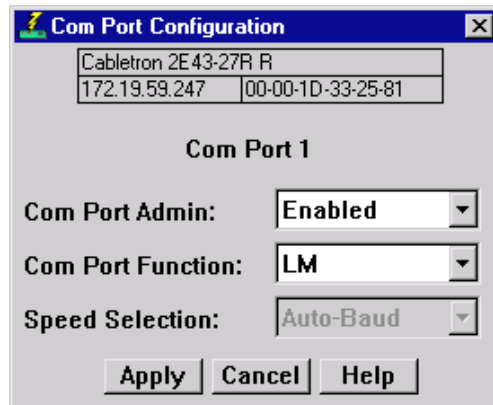

Figure 2-15. The Com Port Configuration Window
You can use the COM Port Configuration window (Figure 2-15) to specify the functions that will be performed by the RS232 COM port on the SmartSwitch 2000 front panel.
2. Click on **Com Port Configuration**, and then select **Port 1**, and release. The Com Port Configuration window, Figure 2-15, opens.